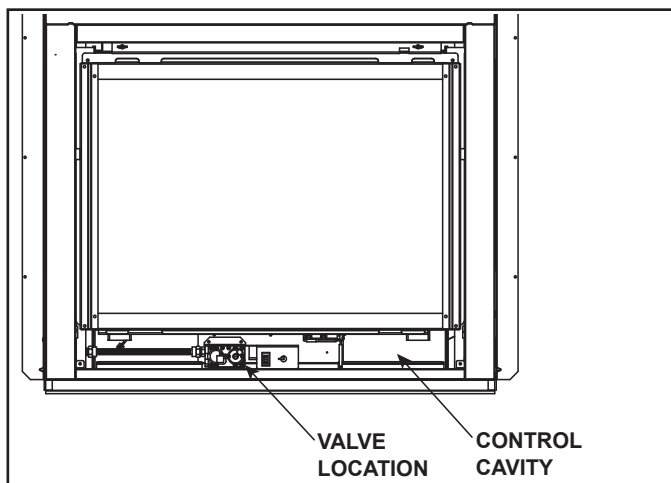

Figure 3.4 Control Cavity/Valve Location
- ➔ The SL-TR-E models have a variable burn rate which is controlled by the HI/LO knob on the gas valve. Therefore the flame height is adjustable. The HI/LO knob is shown in Figure 3.4. It is located in the control cavity of the appliance. The HI/LO knob may be adjusted as desired by turning counterclockwise to the HIGH position and by turning clockwise to the LO position.
The IntelliFire™ intermittent pilot ignition system comes with a battery backup system that enables the system to operate in a power outage. A factory-installed battery pack is located in the control cavity of the appliance. See Figure 3.4. Batteries should not be placed in the battery tray while using electrical power to operate the fireplace. Remove batteries from battery tray when power has been restored.
1. Access the control cavity of the appliance. See Figure 3.4 for location. The decorative front or door may need to be removed.